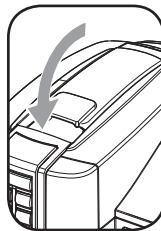

Fig. 3
- 4- Lower the lever to close the capsule compartment (Fig. 3).